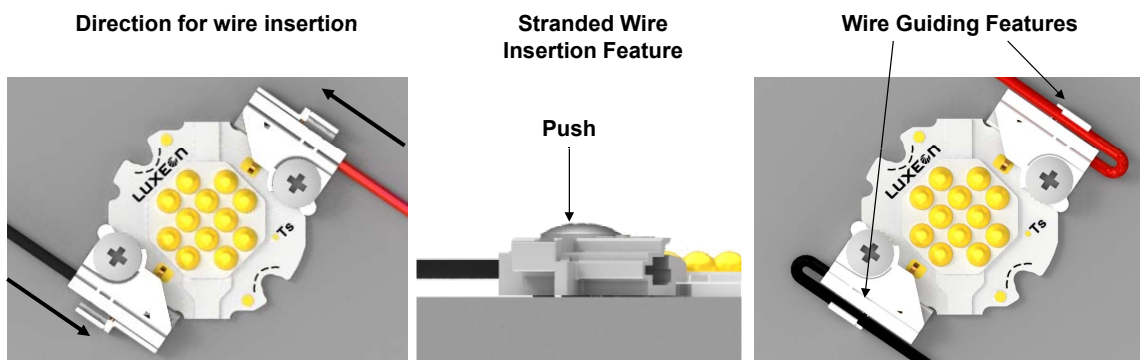

Figure 8. 22/24 AWG UL1007 style wires can be inserted into the Solderless LED Holder to establish an electrical connection with the LUXEON K emitter.
4. Terminate the wires (see Figure 8).